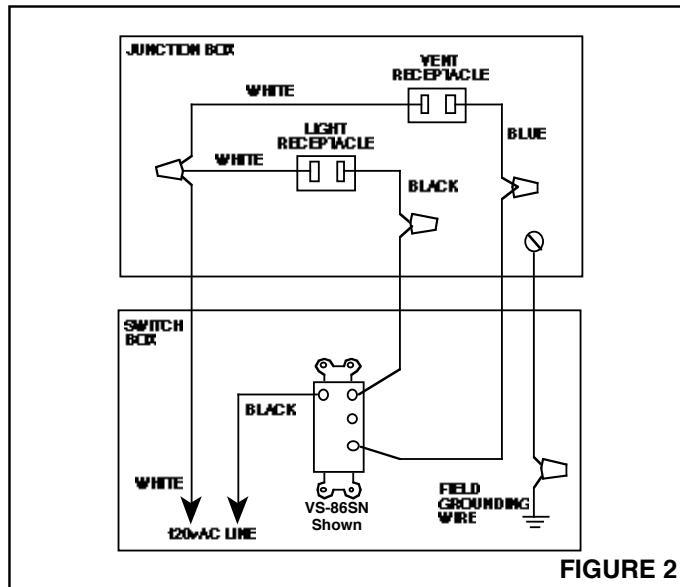

FIGURE 2
3. Refer to fig. 2. Connect white wires in junction box to white (neutral) supply wire. Connect the blue wire in the junction box to the supply wire from the vent switch. Connect the black wire in the junction box to the supply wire from the light switch. Connect green ground wire in junction box to the supply ground.